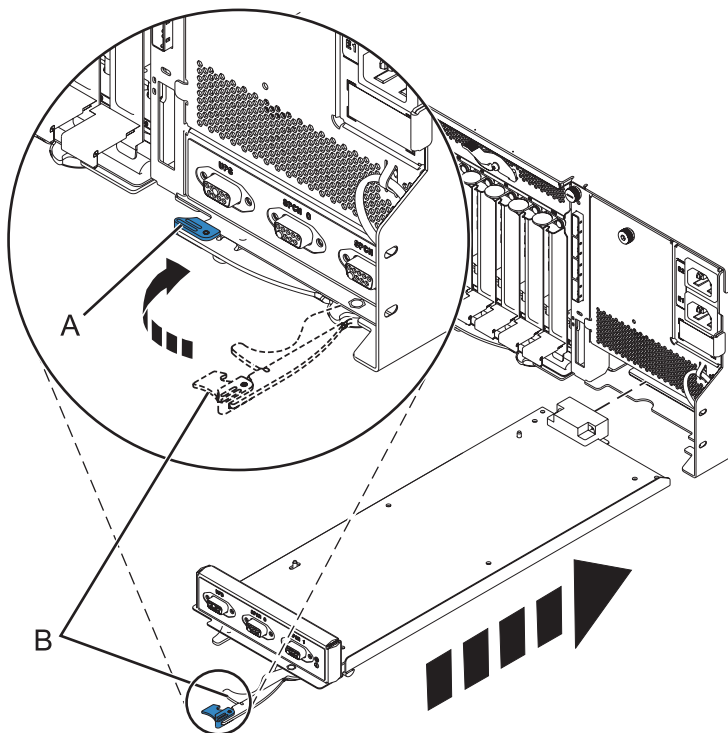

Figure 70. Replacing the enclosure management controller
- Carefully slide the enclosure management controller into the system and close the latch (A) as shown in Figure 70.